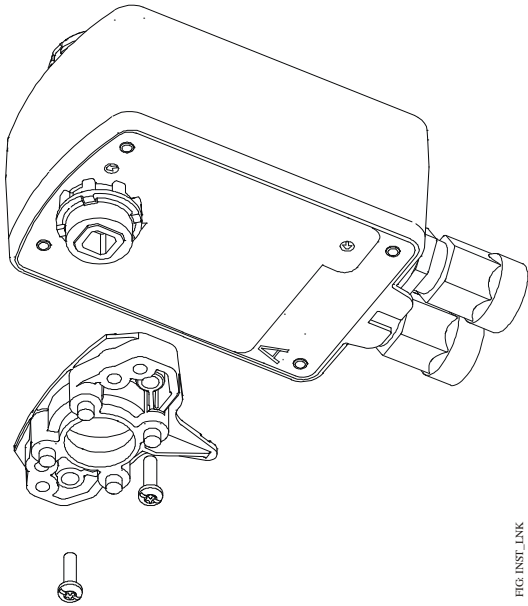

Figure 15: Installing the Linkage
4. Install linkage base on Side A using the two #8-32 x 0.625 in. long screws (Figure 15). The recommended torque is 29 to 33 lb-in. (3.3 to 3.7 N-m).